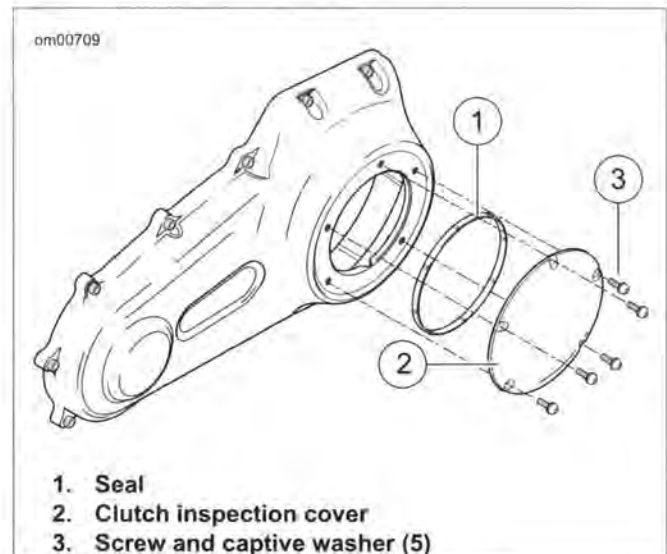
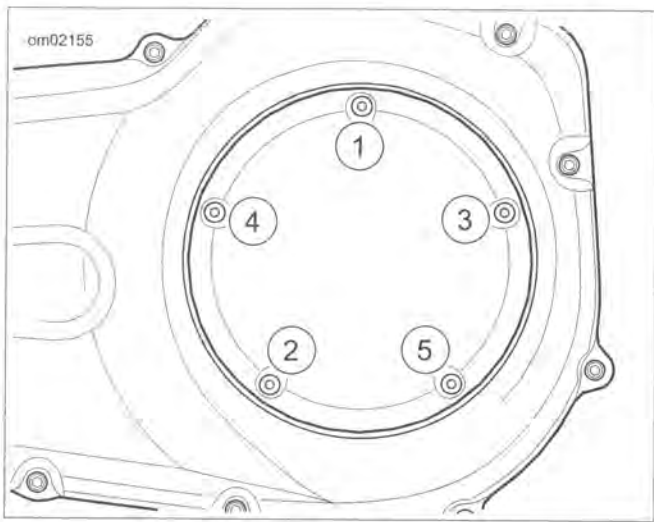

Figure 1-14. Clutch Cover
Figure 1-15. Clutch Cover Torque Sequence
7. See Figure 1-14. Remove screws with washers (3) and clutch inspection cover (2).
8. Remove seal (1). Wipe oil from groove in chaincase cover and mounting surface.
- b. See Figure 1-14. Position **new** seal (1) in groove in clutch inspection cover (2). Press each of the nubs on seal into the groove.
- c. Secure clutch inspection cover (2) with screws with captive washers (3).
- d. See Figure 1-15. Tighten in sequence shown to 84-108 in-lbs (9.5-12.2 Nm).
12. See Figure 1-15. Secure clutch inspection cover. Tighten in sequence shown to 84-108 **in-lbs** (9.5-12.2 Nm).